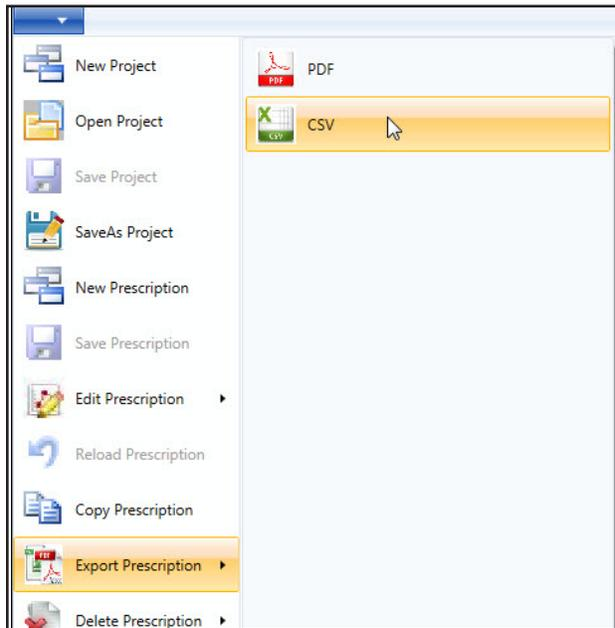

Figure 32-1 Export to CSV
1. Select **Export Prescription** in the VRI drop-down menu and click on **CSV**. (Refer to Figure 32-1.)